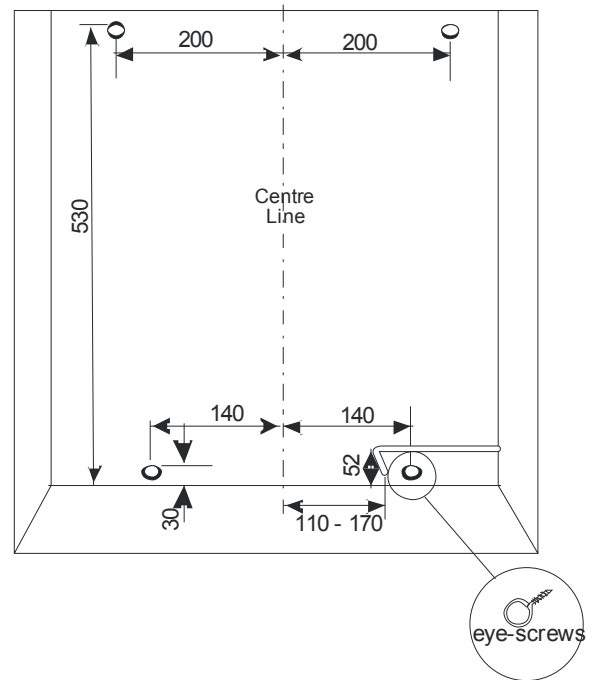

Figure 55
2. Mark out, drill, plug and fit the four eye screws onto the rear wall of the fireplace opening as shown in **Figure 55**.
3. Install the gas supply within the opening using rigid or semi-rigid tubing allowing for rear entry into the fire box (See **Figure 55**).